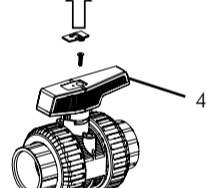

Fig.05
To use this, remove the upper plug with the help of a screwdriver acting as a lever. Dismantle the screw and remove the handle (4), pulling upwards Fig.05.